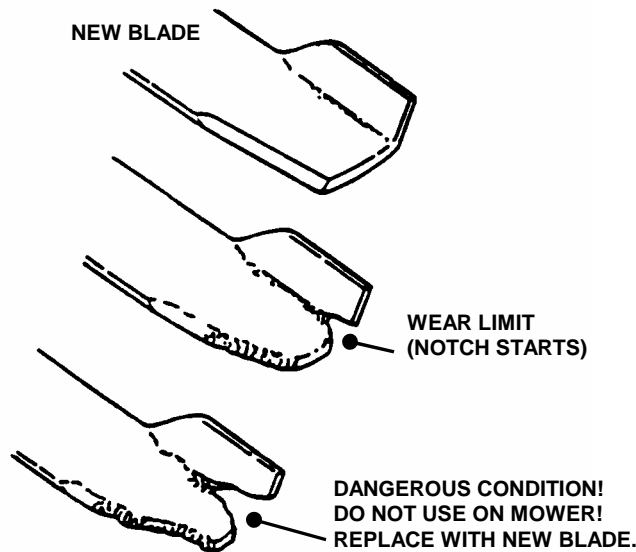

FIGURE 4.5
1. Inspect blade frequently for signs of excessive wear or damage. See Figure 4.5.
See Figure 4.5.